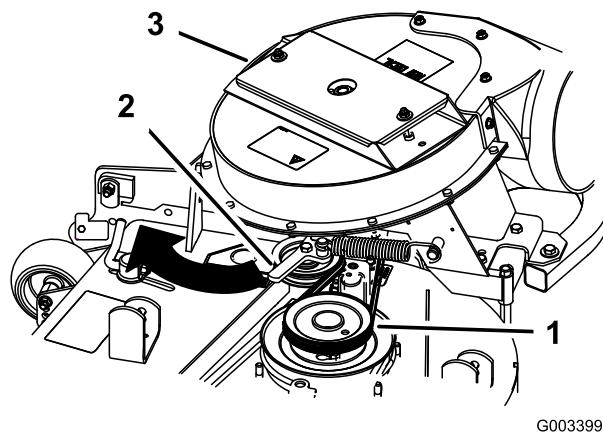

Figure 18
- 5. Pull the spring loaded idler pulley back and route the belt around the mower deck pulley. Ensure the belt is routed around the blower pulleys correctly (Figure 18).